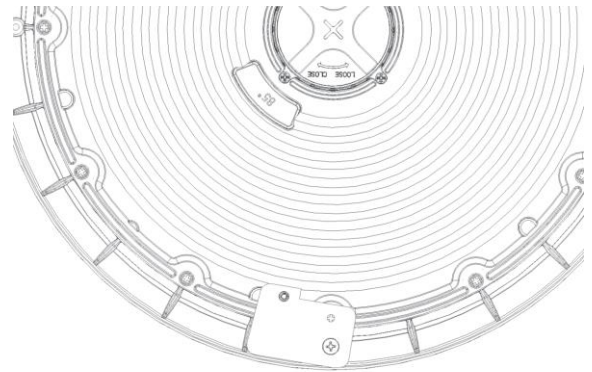

FIG.6
- 2) Locate the provided brackets and attach them to the (4) mounting holes using the pan head screws in hole (A). Ensure that the hole (B) is lined up with the screw in the lens below and that the nut in hole (C) is on the bottom. Align the edge (D) with the fin directly below it. (FIG.6/FIG.7)
- 3) Align the diffuser over the hole (C) in the (4) brackets. Using the flat head screw, attach the diffuser to the bracket. Loosen and adjust